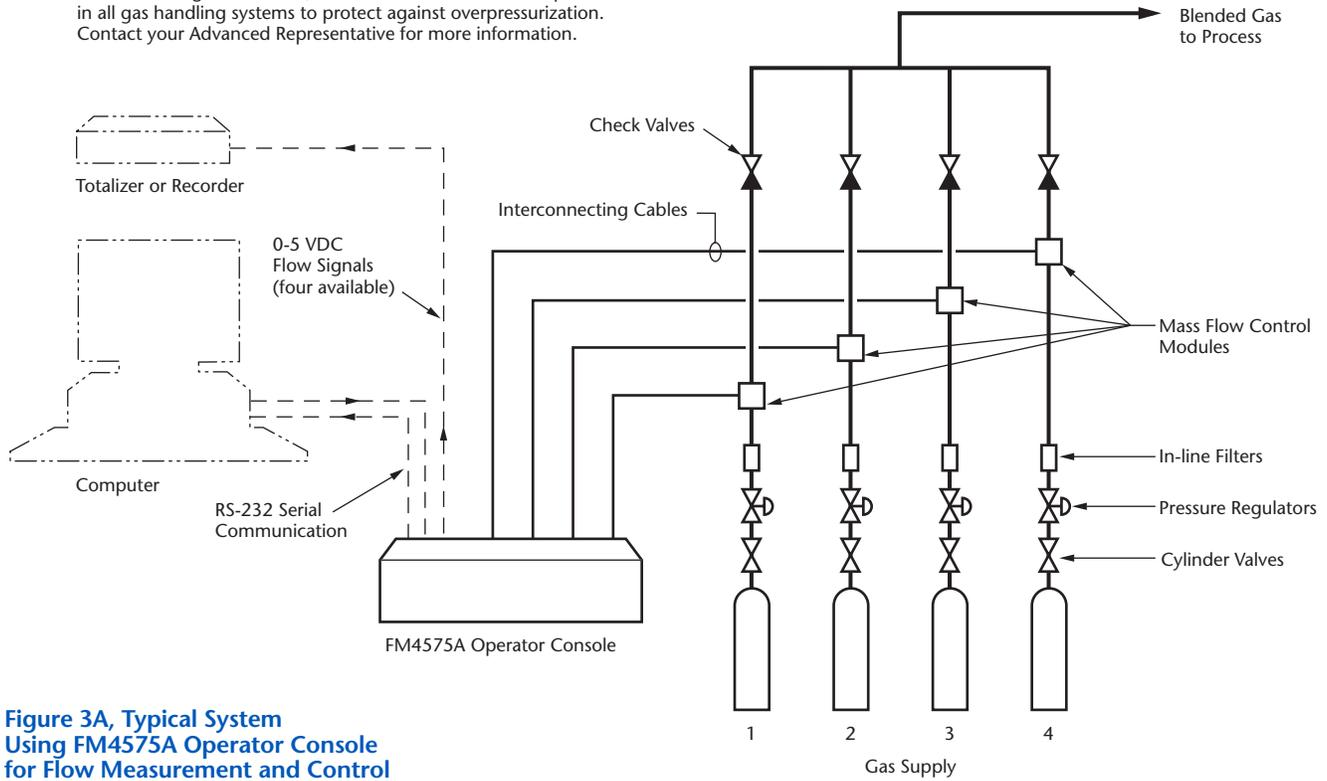

Figure 3A, Typical System Using FM4575A Operator Console for Flow Measurement and Control
- provide simultaneous measurement and control of four separate gas streams (see Figure 3A), or